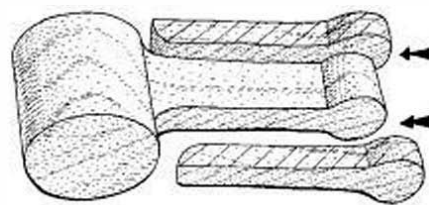

FIGURE 4-13
- 6** Draw the side-view imagery of the rod on the sawn face, mark in the waste, and then slice it off on the saw (Fig 4-13).